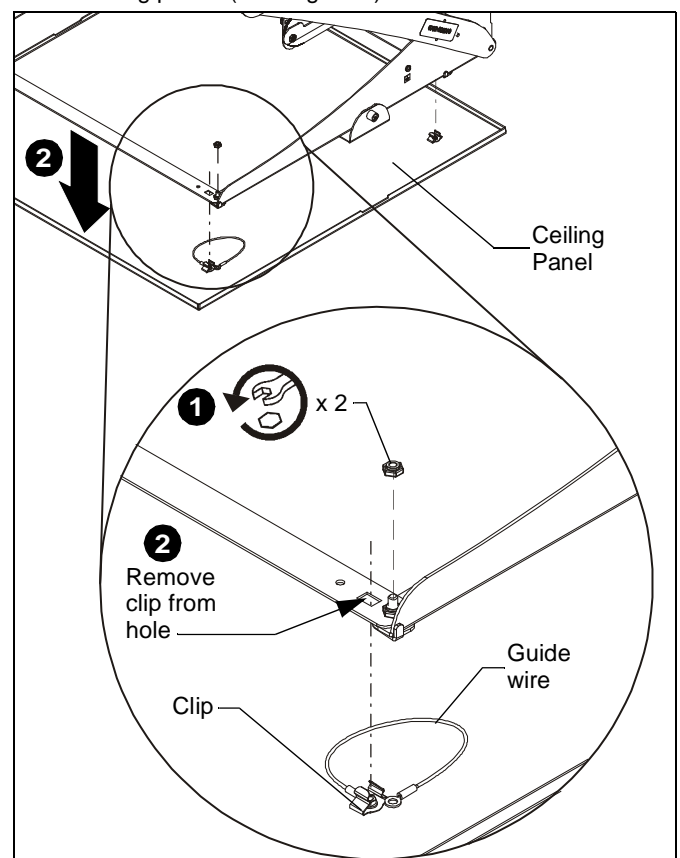

Figure 5
1. Remove and save nuts attaching guide wires to two corners of ceiling panel. (See Figure 5)
2. Pull down on each corner of ceiling panel to remove ceiling panel clips from rectangular holes. (See Figure 5)